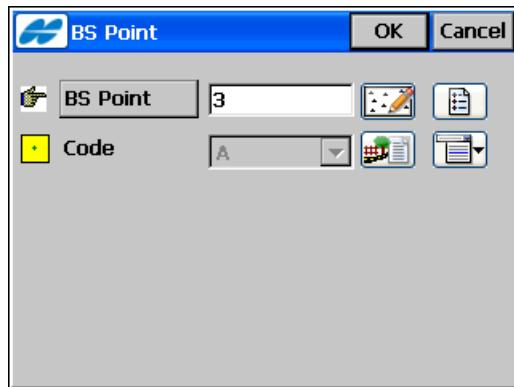

Figure 11-70. BS Point
- **BS Point** – displays the **BS Point** screen for entering the Backsight Point or Backsight Azimuth (Figure 11-70 on page 11-61). If a BS point has not been entered, an Azimuth is required. In this case, if an angle value is entered as *Angle Right*, *Angle Left*, or *Deflection*, this value is considered to be azimuth.
The **BS Point** screen (Figure 11-70) enters the parameters for the *Backsight Point* or *Backsight Azimuth*. Tap the **BS Point/BS Azimuth** button to determine which parameters will display.